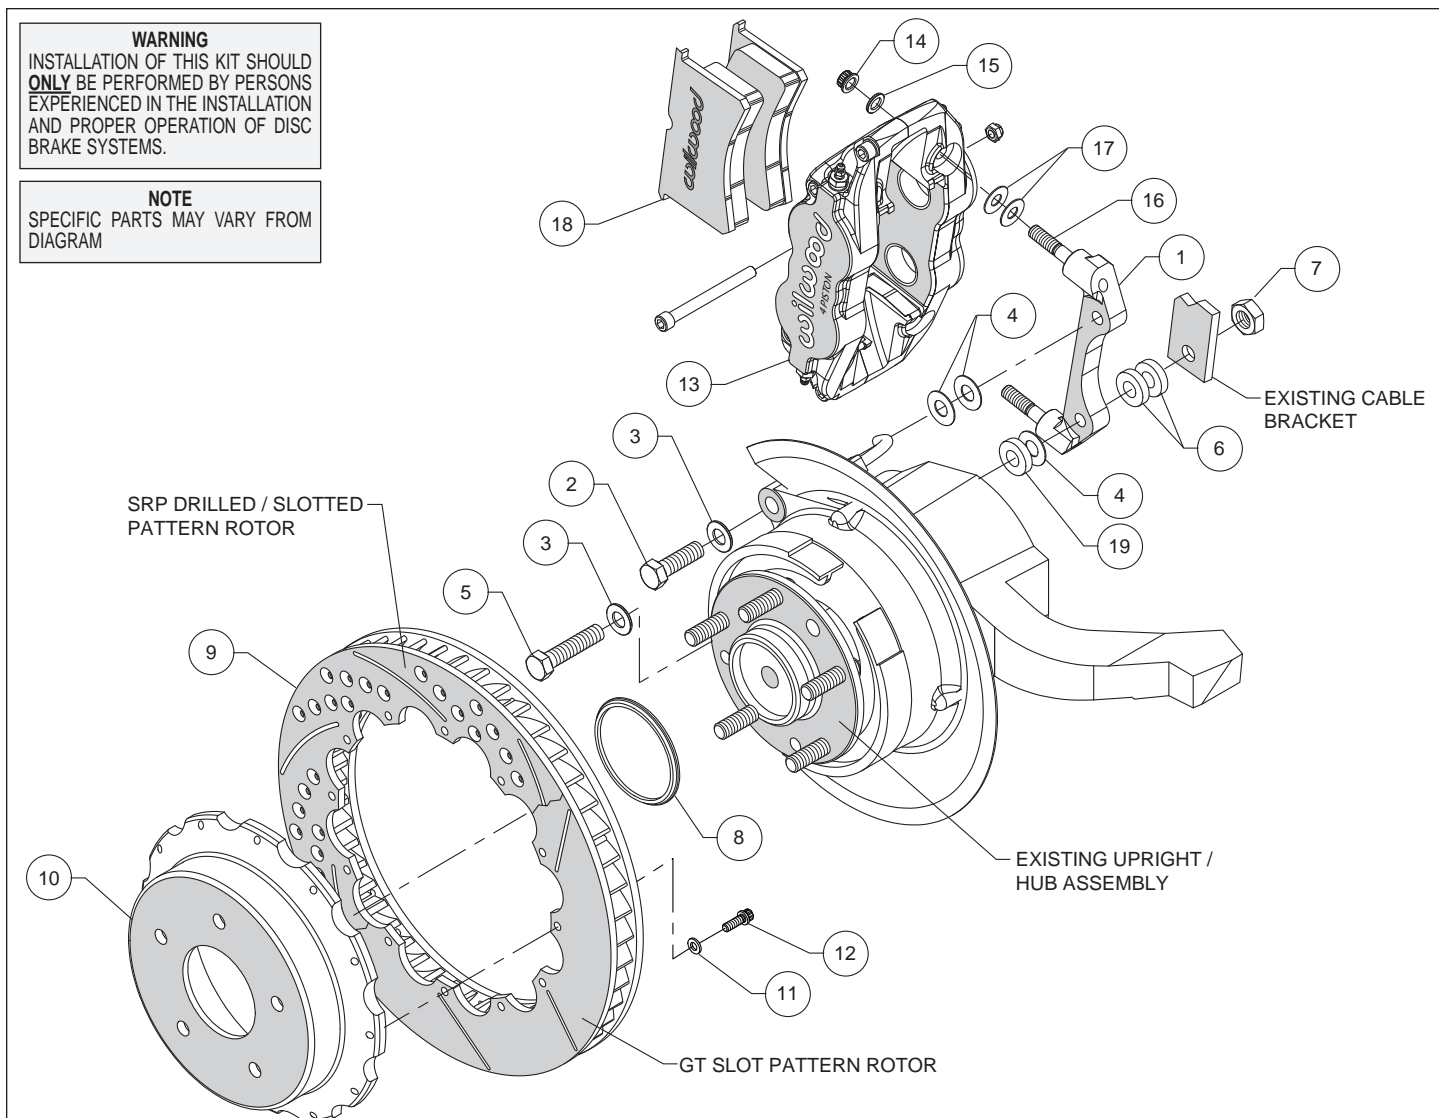
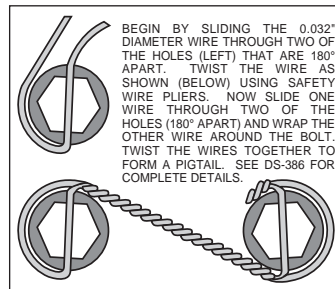

Figure 1. Typical Installation Configuration
Figure 3. Safety Wire Diagram
Assembly Instructions (numbers in parenthesis refer to the parts list and Figure 1 on the preceding pages):
- The caliper mount bracket (1) should initially be installed with clean, dry threads on the mounting bolts. Orient the bracket as shown in Figure 1, and install using bolt (2), washer (3) and two shims (4) for the top mounting hole. Secure the bottom of the bracket using bolt (5), washer (3), .145 thick spacer (19), and one shim (4) as shown in Figure 1 and Photo 1. Temporarily tighten the mounting bolts. **NOTE: The bracket must fit squarely against the mount bosses on the upright.** Inspect for interference from casting irregularities, machining ridges, burrs, etc. Later, after the caliper alignment has been checked, the mount bolts will be secured using red *Loctite*[®] 271.
- Orient the rotor (9) and the hat (10) as shown in Figure 1 and Photo 2. Attach rotor to hat using bolts (12) and washers (11). Using an alternating sequence, apply red *Loctite*[®] 271 to the threads, and torque to 140 **in-lbs**. For an added measure of security, the bolts may be safety wired using standard 0.032 inch diameter stainless steel safety wire as shown in Figure 3. Please refer to Wilwood's data sheet DS-386 (available at www.wilwood.com/Pdf/DataSheets/ds386.pdf) for complete safety wire installation instructions.
- Lubricate the caliper mounting studs (16) with lightweight oil. Initially place two .035" thick shims (17) on each stud as shown in Figure 1 and Photo 4. Mount the caliper (13) onto the bracket (1) using lock nuts (14) and washers (15), Figure 1 and Photo 5. Temporarily tighten the lock nuts and view the rotor through the top opening of the caliper. The rotor should be centered in the caliper, Photo 6. If not, adjust by adding or subtracting shims (4)